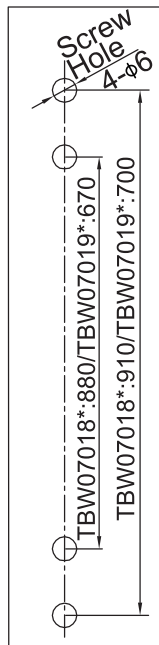

Figure 1
1. 如图1, 对照产品型号, 在墙上合适位置打孔, 保证4个孔在竖直方向, 将膨胀套打入孔内。
1. As shown in Figure 1, referring to the product model, drill holes at the right position on the wall, ensuring the 4 holes at the vertical direction, and tap the wall anchors in.